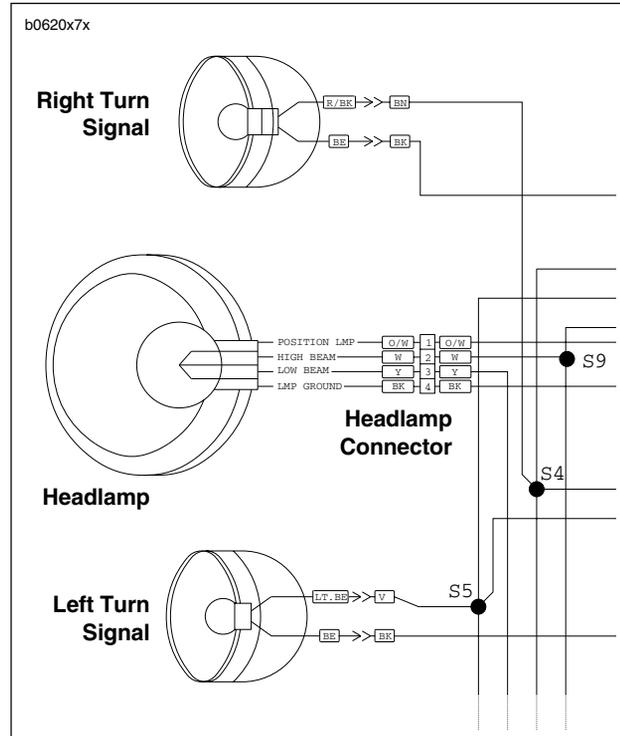
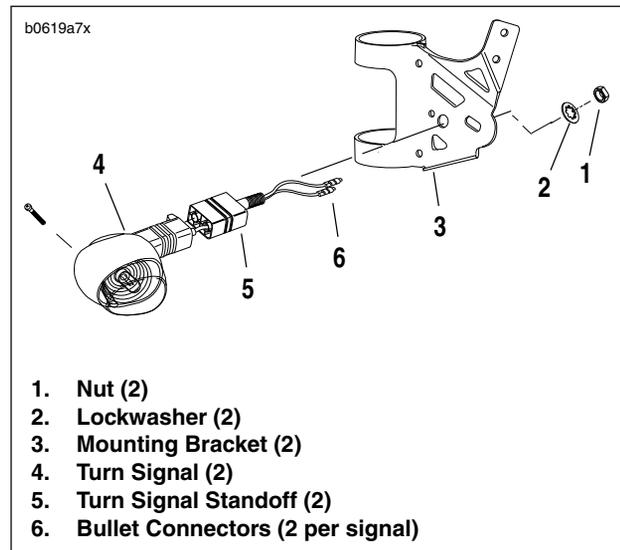

Figure 7-42. Front Turn Signal Connections
Figure 7-43. Front Turn Signals
2. See Figure 7-42. Disconnect bullet connectors on turn signal wires.
3. See Figure 7-43. Remove nut (1) and lockwasher (2) from mounting bracket (3).
4. Remove turn signals (4) and standoffs (5).
5. Pull bullet connectors (6) and wiring through hole in mounting bracket (3).
1. See Figure 7-43. Insert bullet connectors (6) through hole in mounting bracket (3).
2. Install turn signal (4) and standoffs (5) using lockwasher (2) and nut (1). Tighten nut to 25-28 **in-lbs** (2.8-3.2 Nm).
3. Attach bullet connectors on turn signal wires as shown in Figure 7-42.